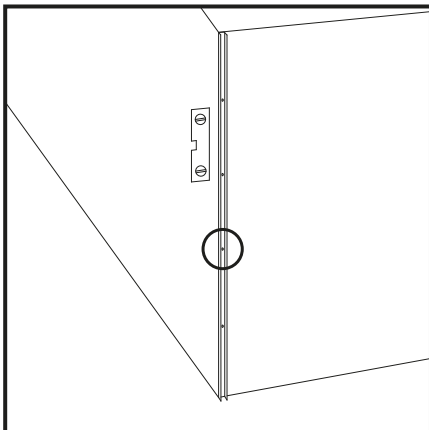

Figure 2
3. Place the vertical U-profile on the wall and mark the screw locations. Before installing the screws, make sure the U-profile is level. (Figure 2)